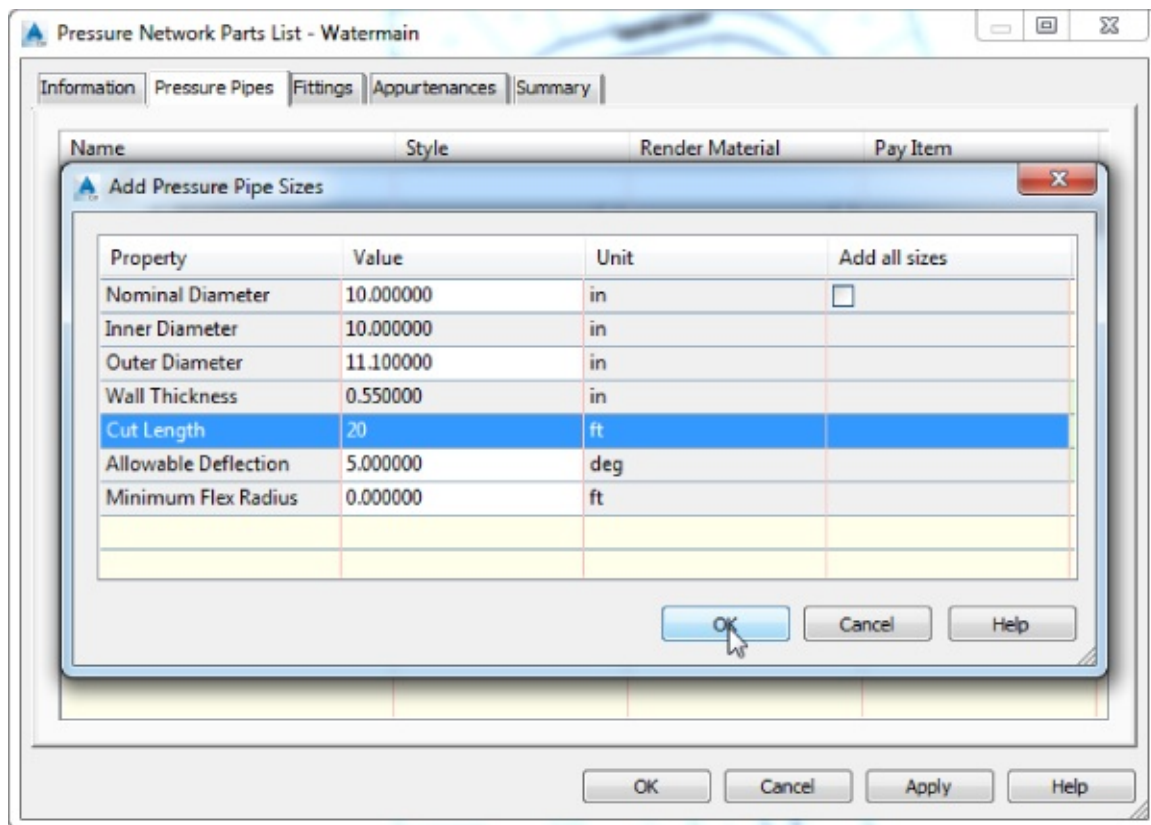

Figure 13.79 Adding ductile iron pipe to the Pressure Network parts list
11. Set the Cut Length value to **20'** (6 m). Leave all other default values, as shown in Figure 13.79, and click OK.